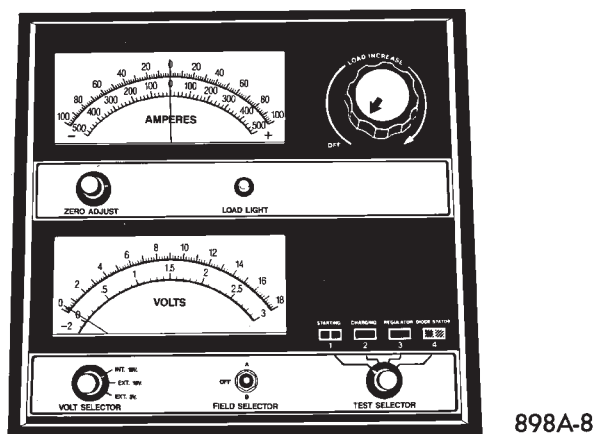
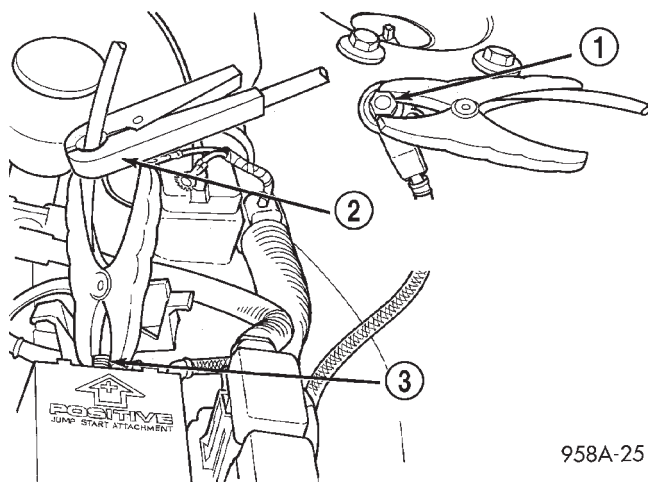

Fig. 4 Volt-Ammeter-Load Tester
Fig. 5 Volt-Ammeter-Load Tester Connections
(1) Disconnect and isolate the battery negative remote cable first. Then disconnect and isolate the positive Jump Start cable.
(2) Use a suitable Volt/Ammeter/Load tester connected between remote battery terminals (Fig. 4) and (Fig. 5). Check the open circuit voltage of the battery. Voltage should be equal to or greater than 12.4 volts. If below 12.4 volts charge battery, perform the same test at the battery. Remove both battery cables the negative cable first. If the voltage is still below 12.4 perform Battery Charging procedures.